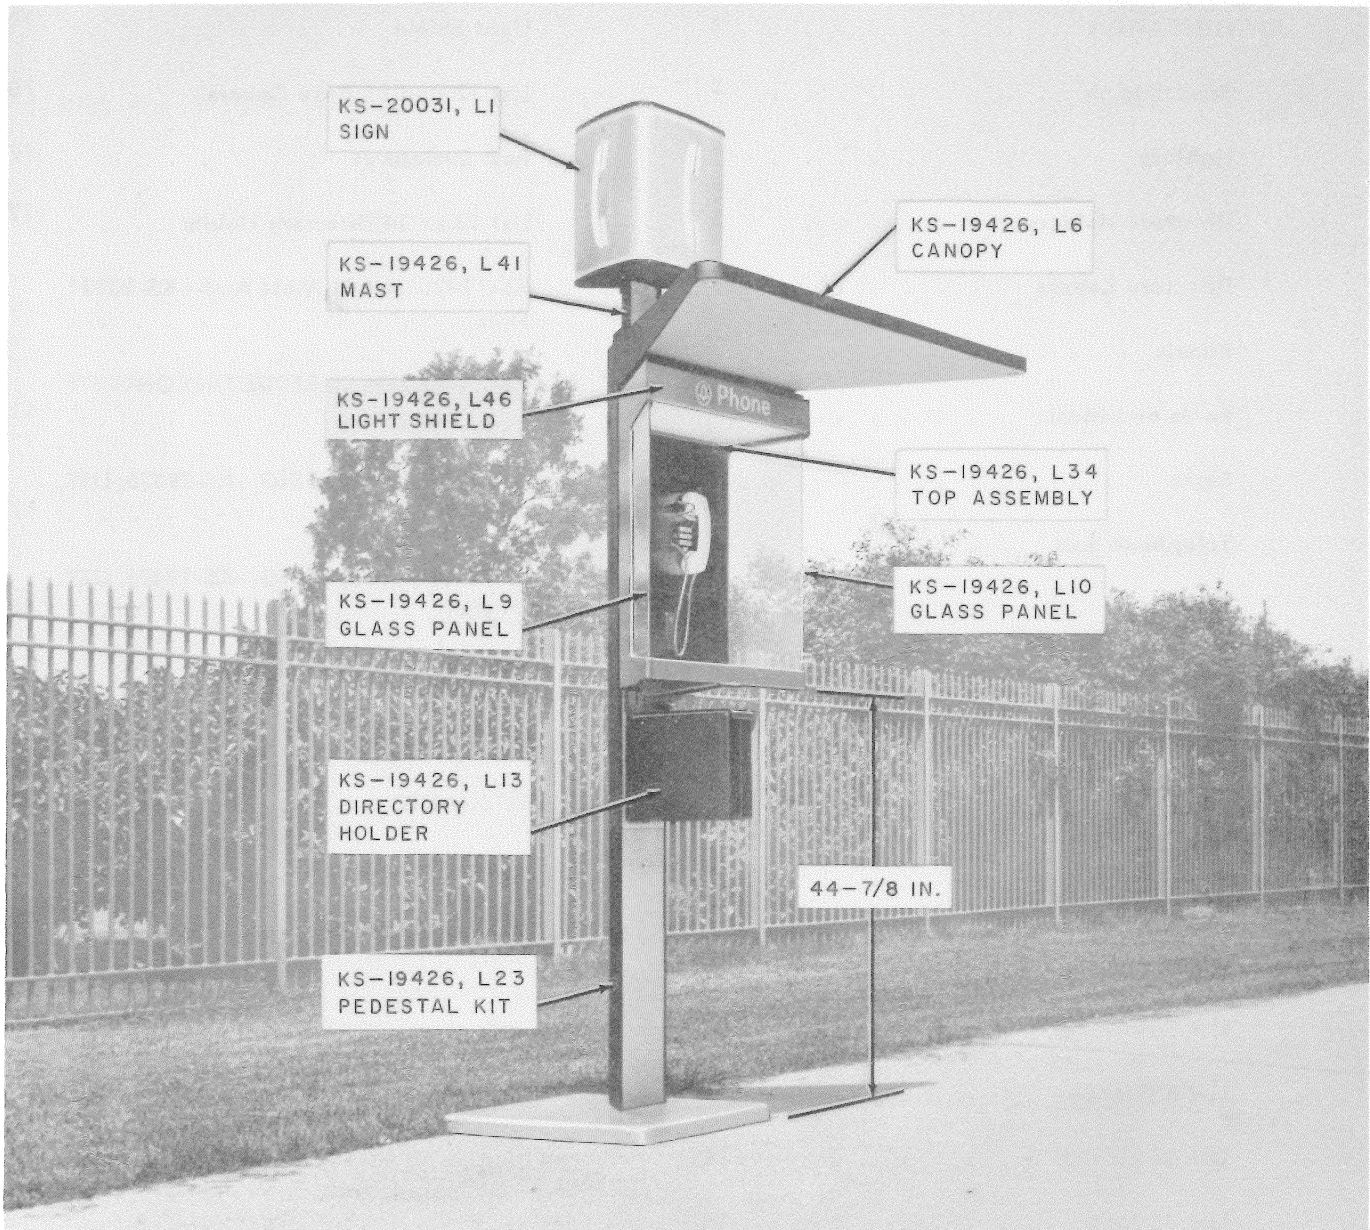

Fig. 1—KS-19426 Mounting for Walk-Up Outdoor Service with List 41 Mast and KS-20031 Illuminated Sign
2.02 The KS-19426 mounting consists of a 90-degree wedge-shaped housing for post- or wall-mounting of coin telephone sets (Fig. 1 through 5).
2.03 Post mountings (Fig. 1 through 3) may be installed singly or in multiple combinations as shown in Fig. 6.
2.05 A wedge-shaped KS-19426, List 6 canopy (Fig. 1) is available for installation above a single housing to protect the user from the weather. Canopies also may be used in multiple arrangements.
- (a) List 13 directory holder (Fig. 1) for outdoor use, walk-up installations.
2.15 A KS-20031, List 1 sign, illuminated with a special 100-watt mercury lamp, is available for use with the mounting. If a List 39 or List 40 mast is not used, a List 41 mast must be ordered for mounting the sign (Fig. 1). See Section 508-810-202 for additional information on the sign.